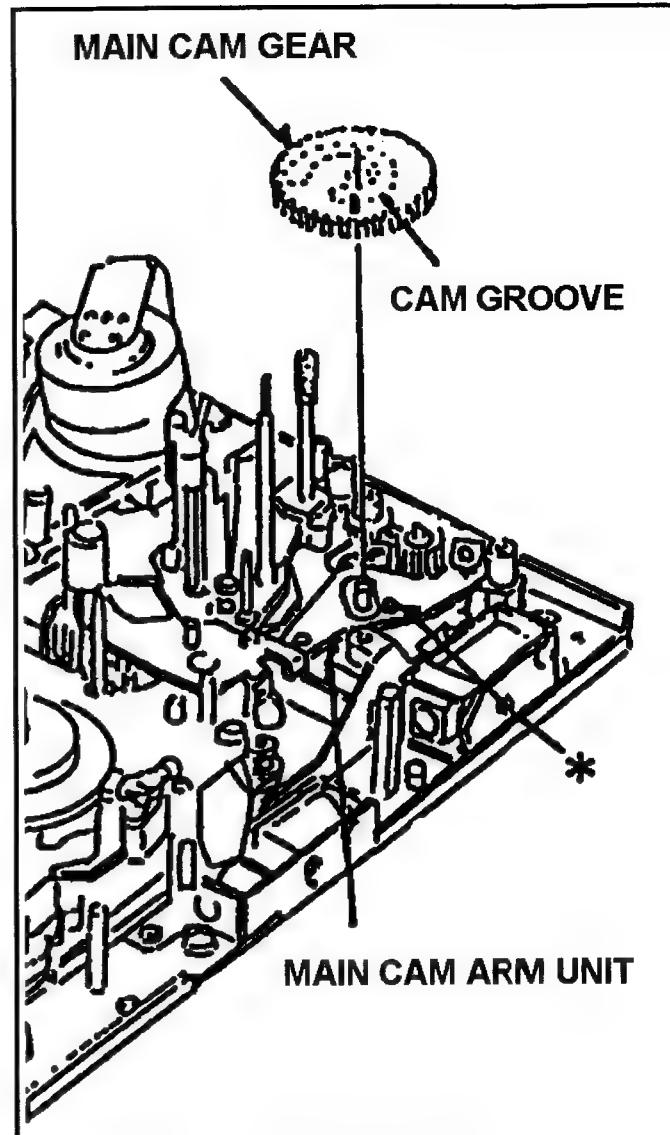

Fig.6-11-1 Removal of Main Cam Gear
3. Remove the Pinch Solenoid Unit (Refer to item 6-7) and Loading Motor Neutral Unit (Refer to item 6-9).
4. Remove the Main Cam Gear as shown in Figure 6-11-1.
1. Install the Main Cam Gear, then the pin of Main Cam Arm Unit (※) should be matched with the groove position of Main Cam Gear as shown in Figure 6-11-1.
3. After installation, Pinch Solenoid Position Adjustment is required (Refer to item 5-2).